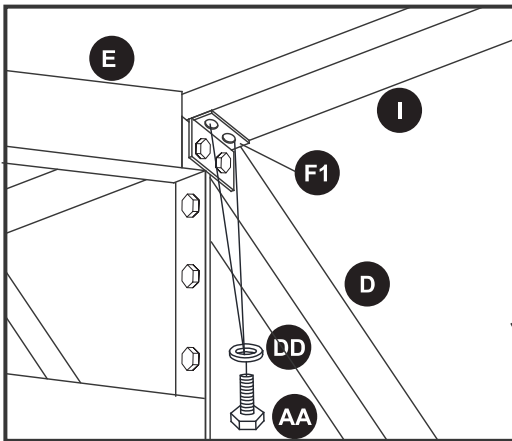

Fig.12.1
9. Connect one end of the Short roof support (I) with the Connector (F1) with Bolt and Washer (AA/DD). Connect the other end to the Slant beams (D/E) with Bolts and Washers (AA/DD). See Fig.12.1 - Fig.12.2. Repeat for all four sides.